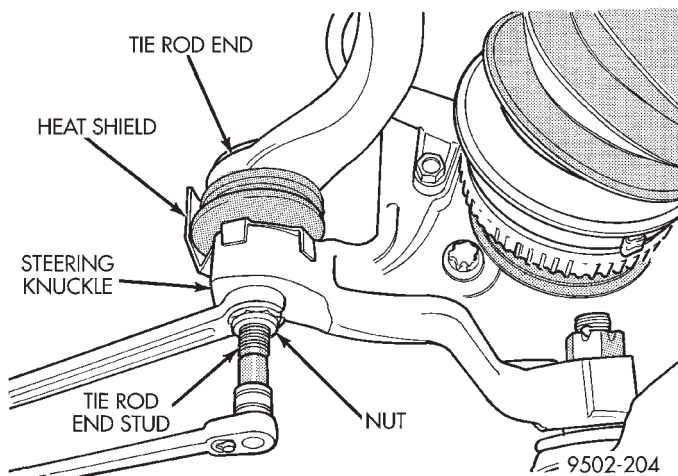
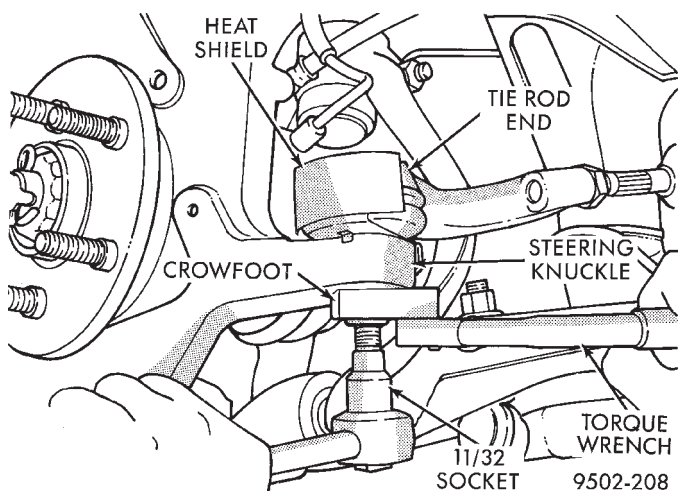

Fig. 19 Installing Tie Rod End Nut
Fig. 20 Torquing Tie Rod End Nut
(9) Install tie rod end into the steering knuckle. Start tie rod end to steering knuckle nut onto stud of tie rod end. While holding stud of tie rod end stationary (Fig. 19), tighten tie rod end to steering knuckle nut. Using a crowfoot and 11/32 socket, tighten the nut to 61 N·m (45 ft. lbs.) (Fig. 20).